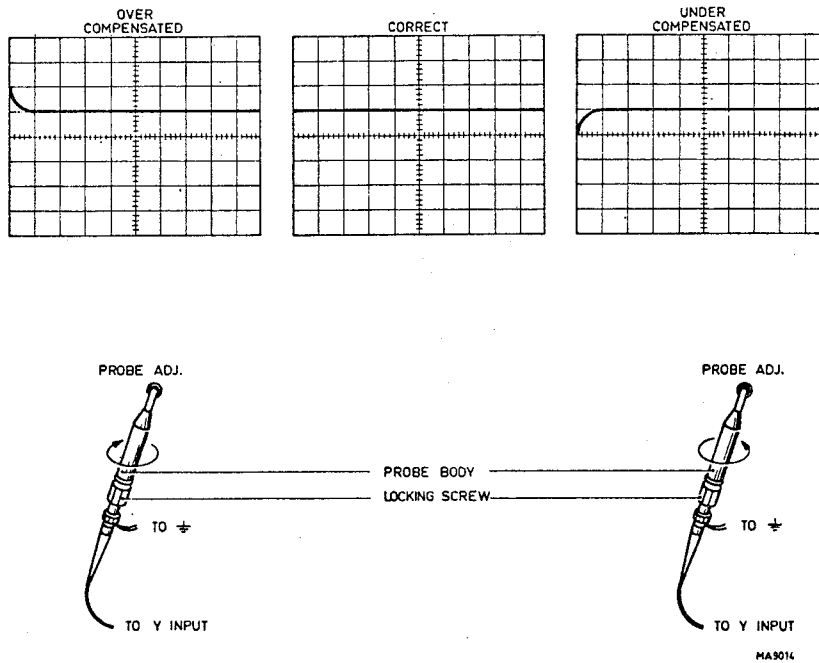

Fig. 3.19. Attenuator probe compensation
3.5.1.2 *Adjustment (Fig. 3.19.)*